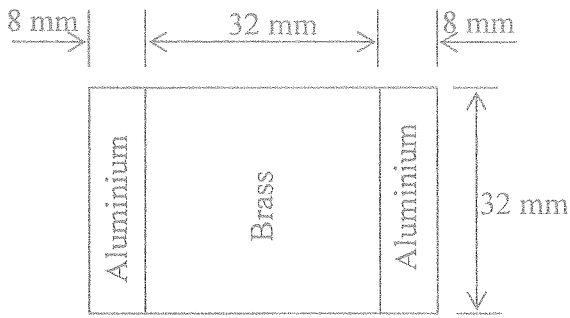

Fig.Q1
- b) A composite beam having the cross section as shown in Fig. Q1 is formed by securely bonding two rectangular aluminium sections to a square brass section. The modulus of elasticity and the allowable bending stresses of the two materials are as follows.